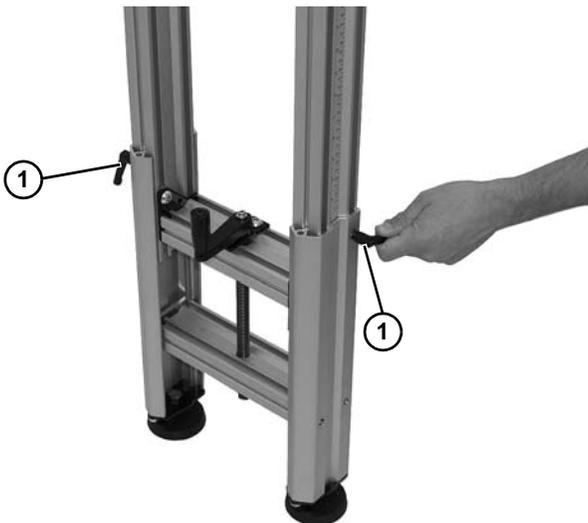

Figure 2
1. Loosen two locking handles (Figure 2, item 1).
Failure to secure locking handles (Figure 2, item 1) may cause conveyor sections to drop down causing severe injury. TIGHTEN HANDLES (Figure 2, item 1) AFTER ADJUSTMENT.
3. Tighten two locking handles (Figure 2, item 1) to secure position.